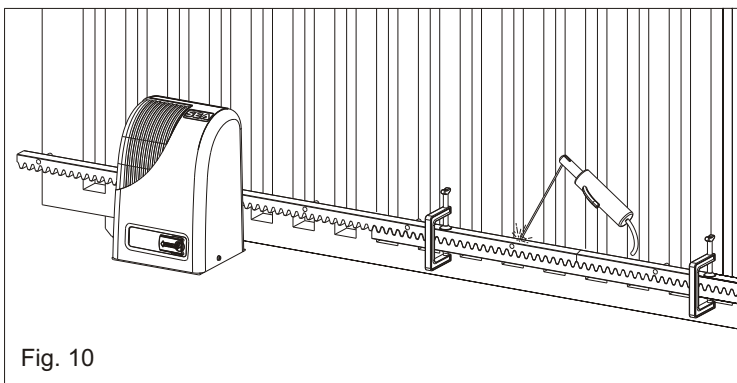

Fig. 10
5.5. Check all the rack pieces are perfectly aligned and placed correctly (serrations in phases). When fitting the next section of rack use a third piece as shown in Fig. 10 to ensure a good mesh.